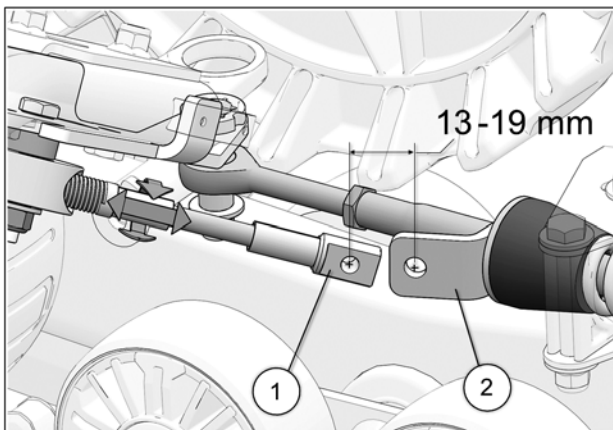

Fig. 26
17. Turn the vehicle's steering wheel to its maximum point of travel on the left. While maintaining pressure on the steering wheel, turn threaded rod to adjust length of cable. See Fig. 26
18. Position cable end hole (1) 13-19 mm short of support plate mounting hole (2). See Fig. 26